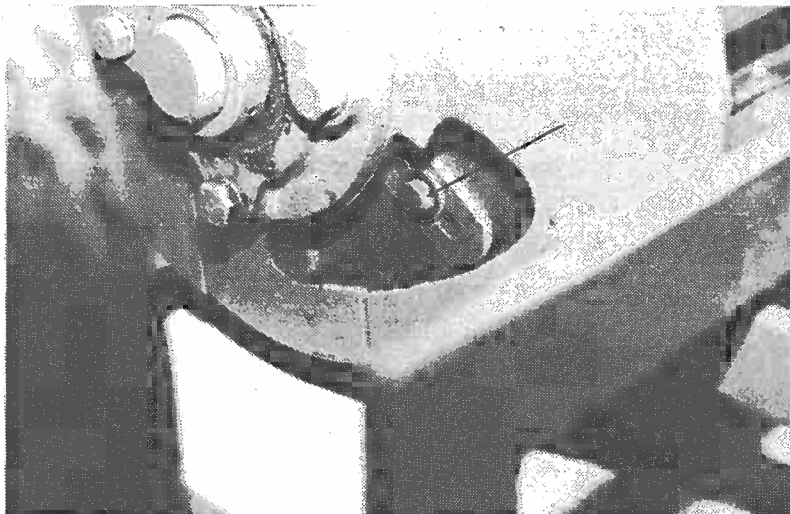

FIGURE 5
2. Place wrench supplied with machine on exposed bolt in cutter window. See Figure 5. Turn clockwise to rotate cutter head to end of cutter window. This will rotate cutter head for proper indexing. Do not attempt to turn cutter head with hands.